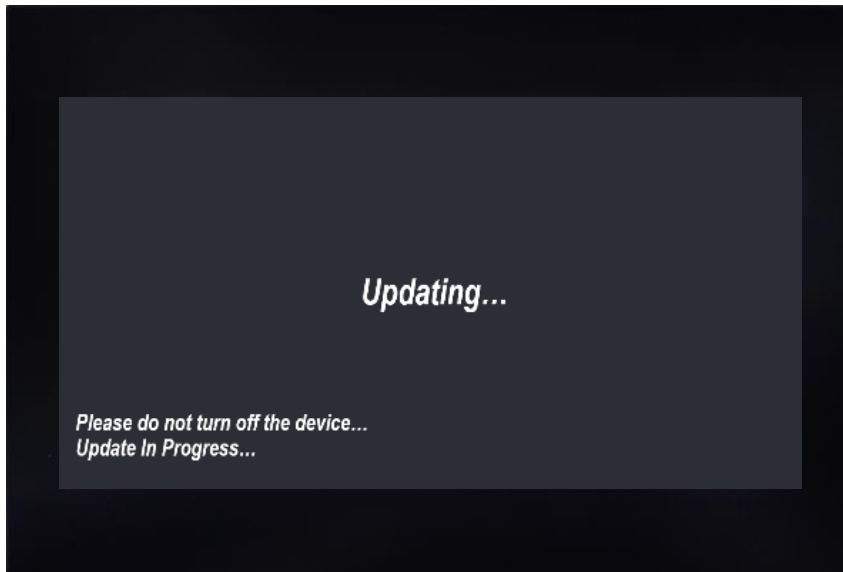

Fig.5: Screenshot of UV66-ECO-xx-RES-W, while update is in progress.
10. In the next step, the screen will show the same content of the screenshot Fig.5.